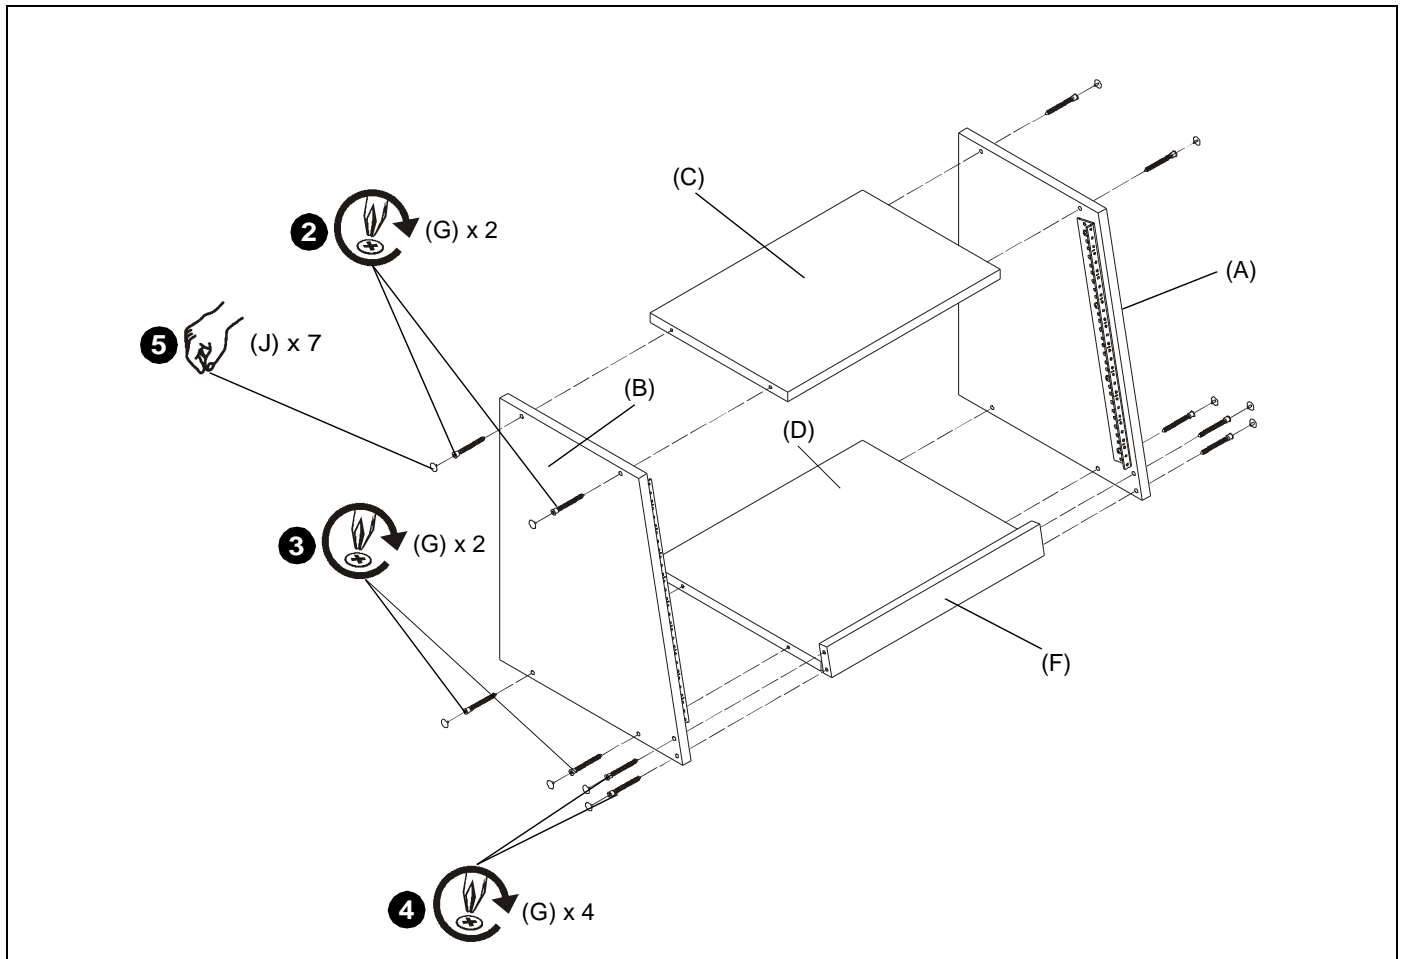

Figure 2
2. Secure rack top (C) to one side panel using two M7x50mm Phillips confirmat screws (G). Do not over tighten! (See Figure 2)
3. Secure the rack bottom (D) using two M7x50mm Phillips confirmat screws (G). Do not over tighten! (See Figure 2)
4. Secure cross brace (F) to the front of the side panel using two M7x50 Phillips confirmat screws (G). (See Figure 2)
5. Install six caps (J) to installed confirmat screws (G). (See Figure 2)
6. Install remaining side panel (A) to the other side following Steps 2-5.